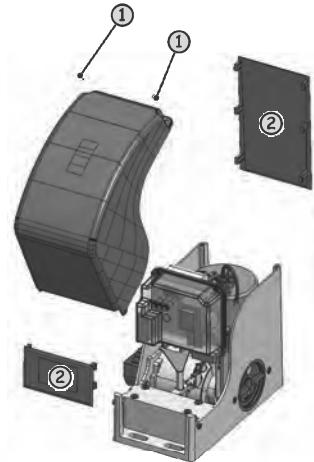

Fig. 8
- Remove the motor cover, fully unscrewing the 2 upper securing screws (Fig. 8 ref. ①).
- Withdraw the 2 lateral protective devices (Fig. 8 ref. ②).